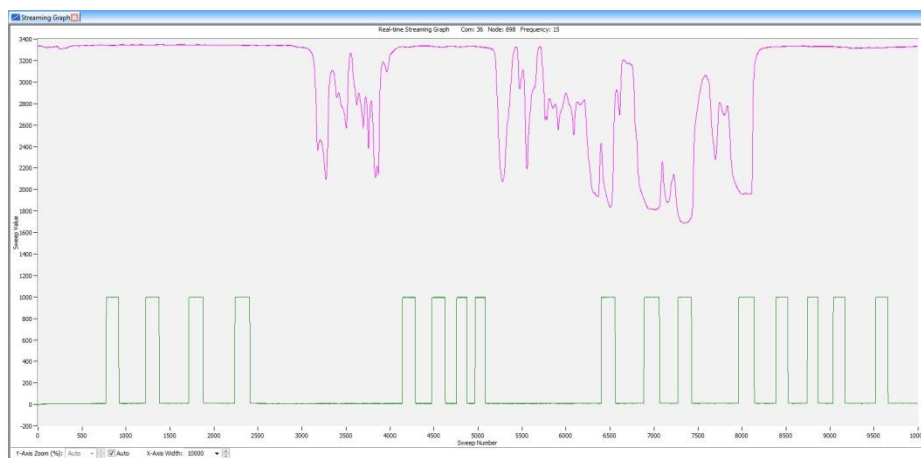

Figure 5: Streaming Graph
- During the streaming, push and release the button on the edge of the Tester Board to shunt the 1000 ohm resistor in and out of the stream. This will appear as a stepped (green) line as shown in Figure 5. As expected, steps will be $\sim 1000 \mu\text{-strain}$.
- During the streaming move your finger over, off and around the photocell to change the light passage. This will appear as a wavy (purple) line as shown in Figure 5.